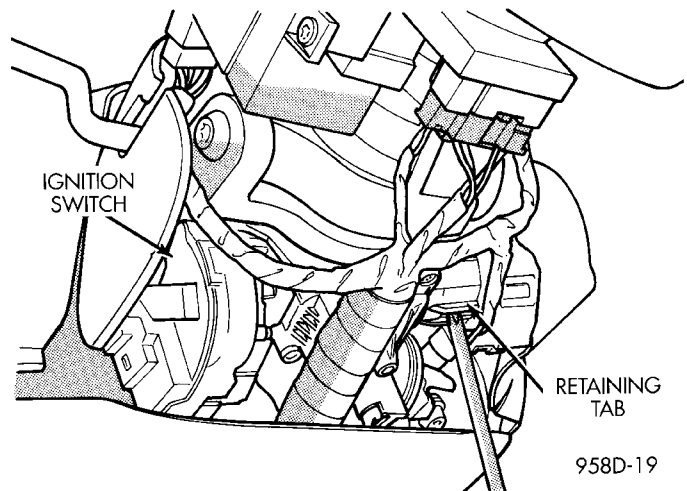

Fig. 6 Lock Cylinder Retaining Tab
- (5) Place key cylinder in RUN position. Depress lock cylinder retaining tab and remove key cylinder (Fig. 6).